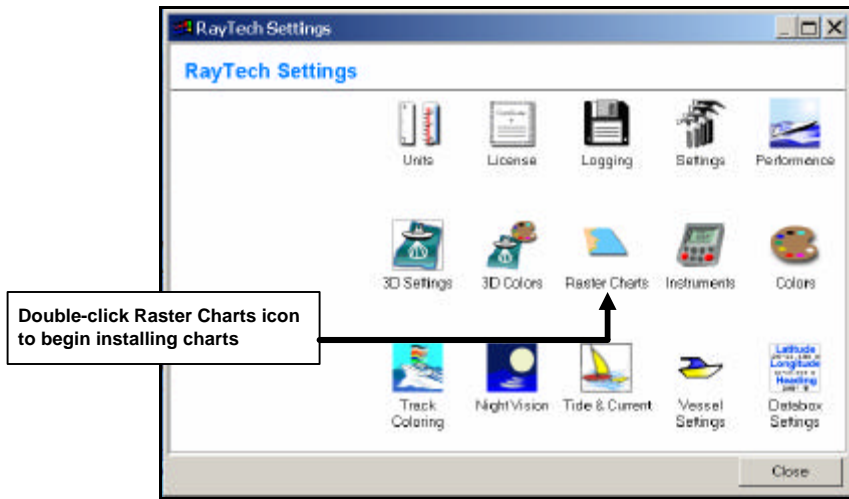

Figure 4-1. RayTech Settings Dialog Box
2. From the **File** menu, select **Settings**. The RayTech Settings dialog box (Figure 4-1) is displayed.